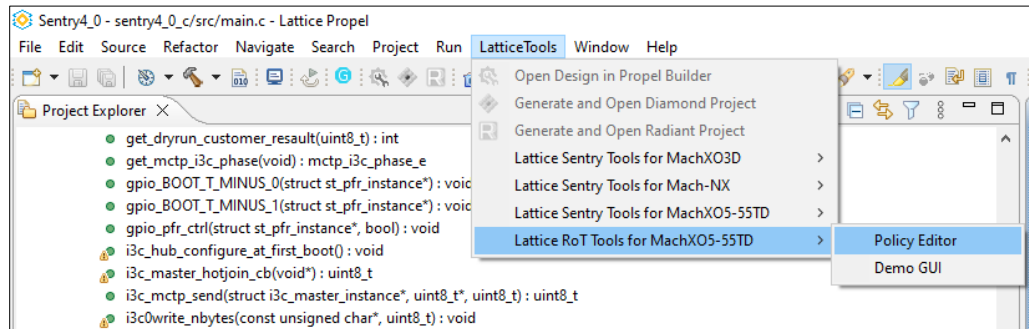

Figure 7.1. Open Policy Editor
2. From the menu, select **Lattice Tools > Lattice RoT Tools for MachXO5-55TD > Policy Editor**, as shown in Figure 7.1.